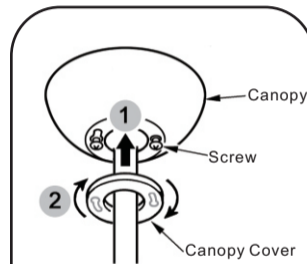

Fig.19
Step 4. Twist the canopy cover to fit it on canopy. (Fig. 19)